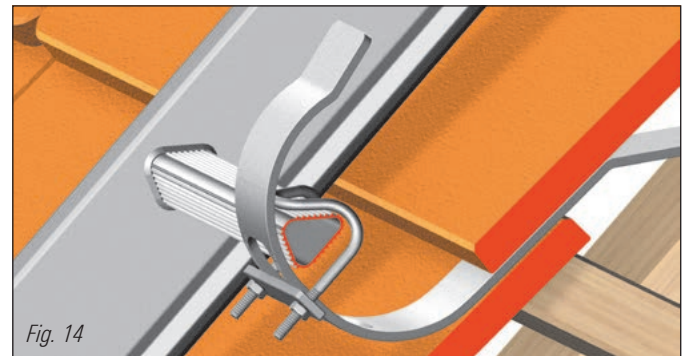

Fig. 14
1. Suspend the roof ladders from the second rung down in safety roof hooks in accordance with DIN EN 517. Secure this suspension arrangement using the fastening bracket (Fig. 14).